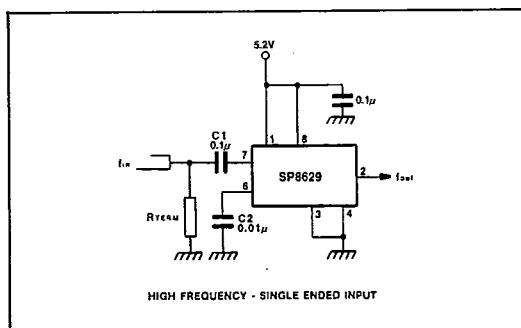

Fig.6 High frequency, single-ended input
2. The signal source is usually capacitively coupled to the input as shown in Fig. 6. In the single-ended mode a capacitor of $0.01\mu F$ (C_2) should be connected between the unused input and the ground plane to provide a good high frequency bypass. The capacitor should be increased at lower frequencies. If the input is likely to be interrupted, it may be desirable to connect a $100k$ resistor between an input and ground.